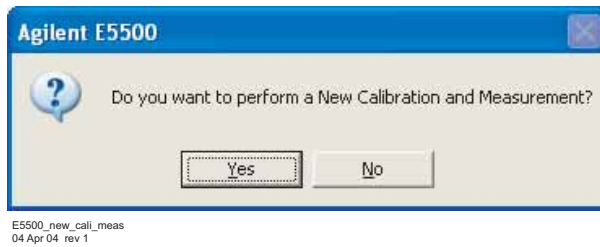

Figure 92 Confirm new measurement
- 2 When the **Do you want to Perform a New Calibration and Measurement?** dialog box appears, click **Yes**. See Figure 92.